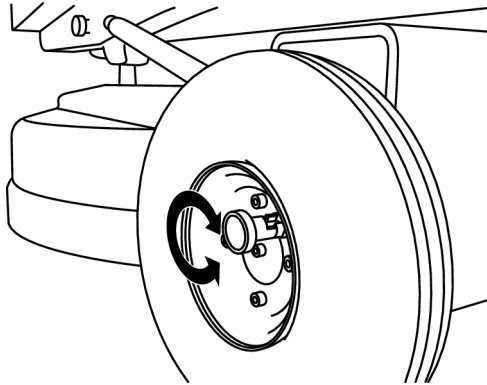

Figure 4-4. Turn 90 degrees
2. Turn the locking pin 90 and release it for the secured position, see Figure 4-4, page 18.